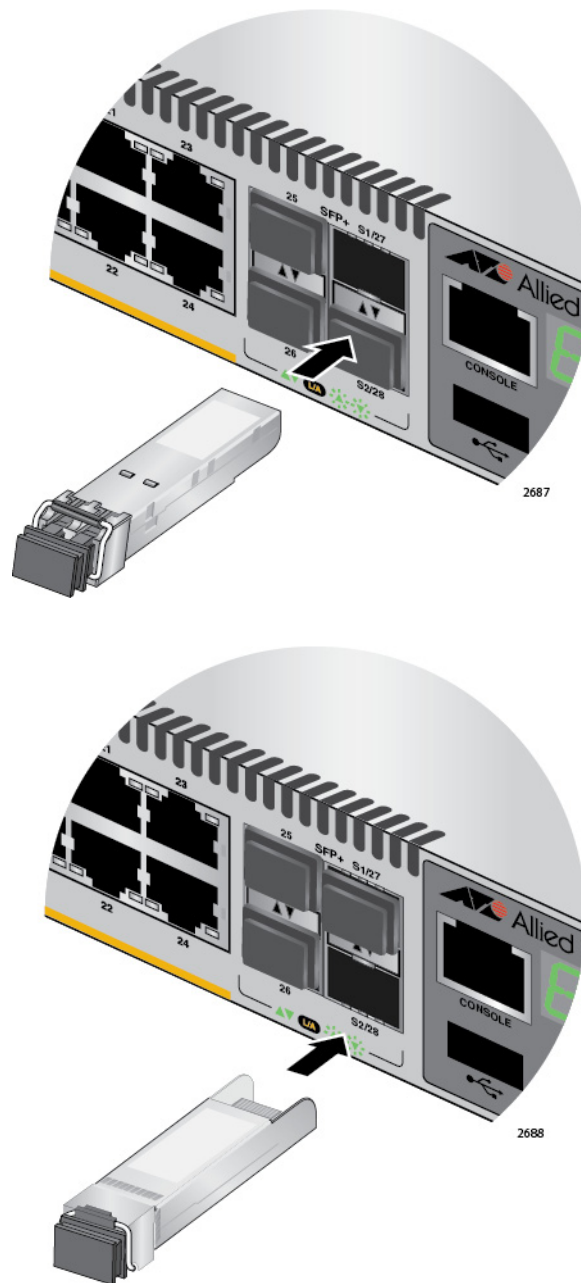

Figure 55. Installing the AT-StackOP/0.3 or AT-StackOP/9.0 Transceiver
3. Slide the transceiver into the slot until it clicks into place, as shown in Figure 55 on page 100.